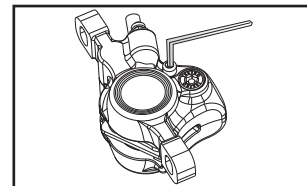

Fig 8b
- Remove the caliper from the bike using a 5 mm hex wrench. Remove brake pads from caliper using a 3 mm hex wrench to avoid contamination during the bleed procedure. (Fig 8b)